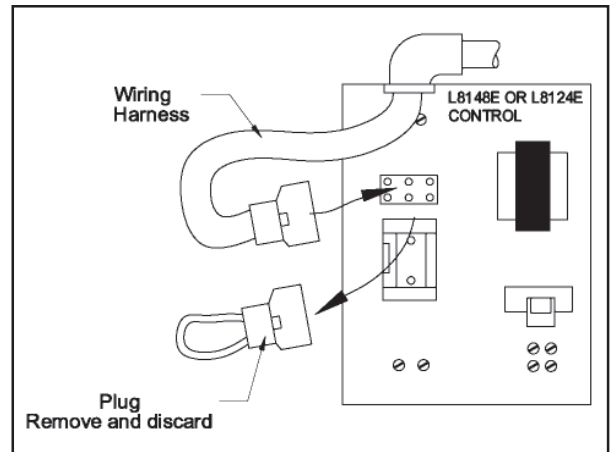

Figure 5
1. To locate the vent damper wire harness (if supplied) receptacle on the appliance, refer to the appliance manufacturer instruction manual and follow accordingly. (See Figures 5, 6, and 7)